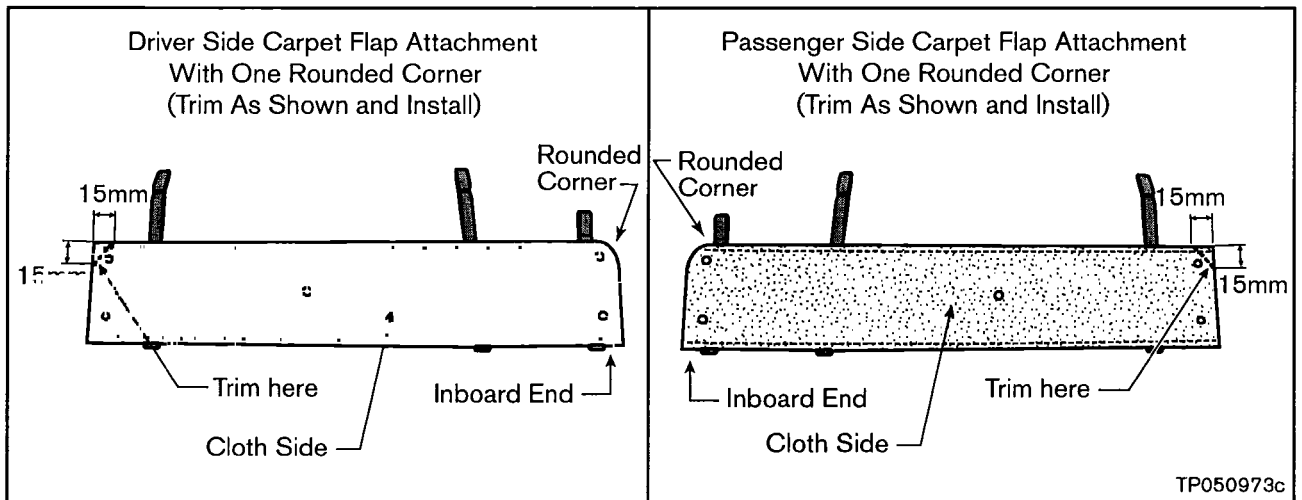

Figure 15
- If the attachments have one rounded corner as shown in Figure 15, they will have to be trimmed. Go to step e.
e. Cut the outboard lower corner of each carpet flap attachment as shown in Figure 15.
- Measure 15mm (19/32") in from the corner of the carpet flap attachment and place a mark at each location (see Figure 15).